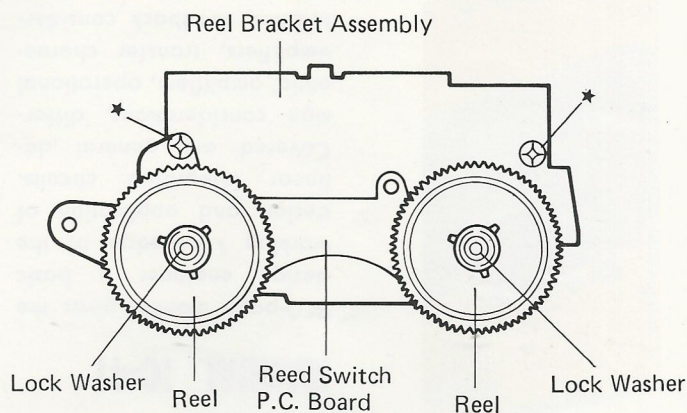

Figure 8
- (5) Remove two screws marked "★" and the lead wires to take off the reed switch P.C. Board as shown in Figure 8.
- (6) Remove two lock washers to take off two reels as shown in Figure 8.
- (7) When installing the reel bracket assembly after replacing the reels with new ones and the reed switch P.C. Board, pull it toward the flywheel and assemble it in the opposite way to disassembly.
- (8) After assembling, confirm the tape speed and the wow/flutter with the test tape (MTT-111).